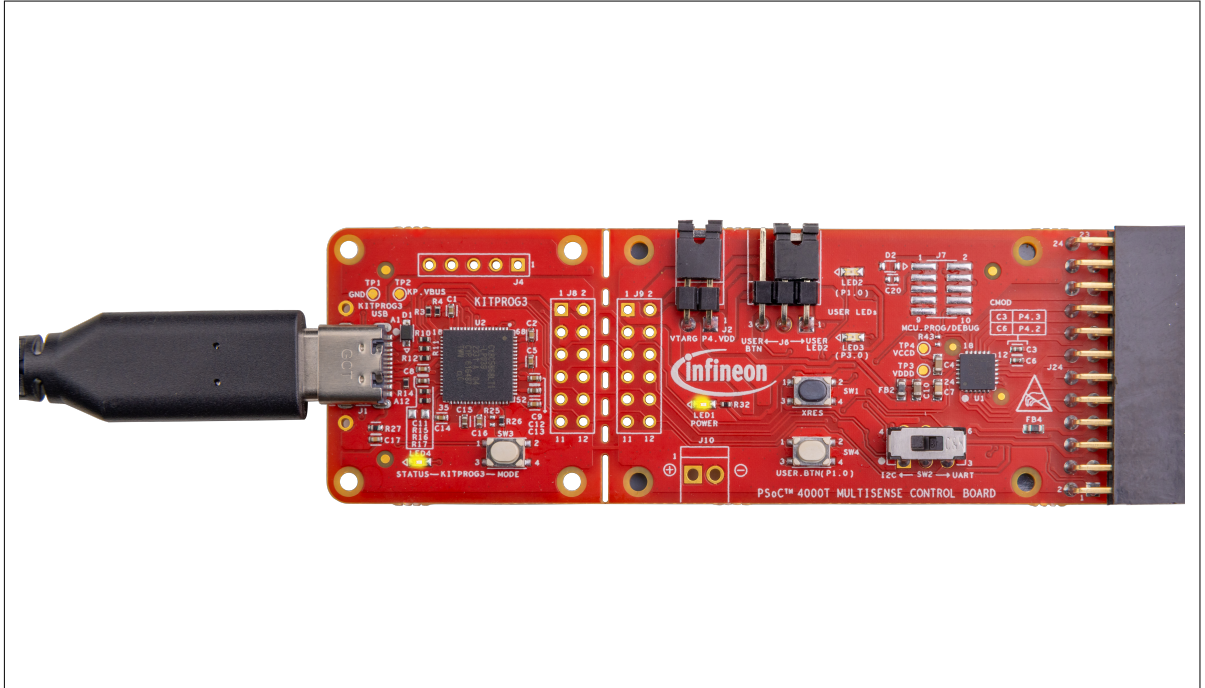

Figure 10 Connect the USB cable to the USB connector on the board
1. Connect the board to the PC using the USB cable through the KitProg3 USB connector, as shown in Figure 10